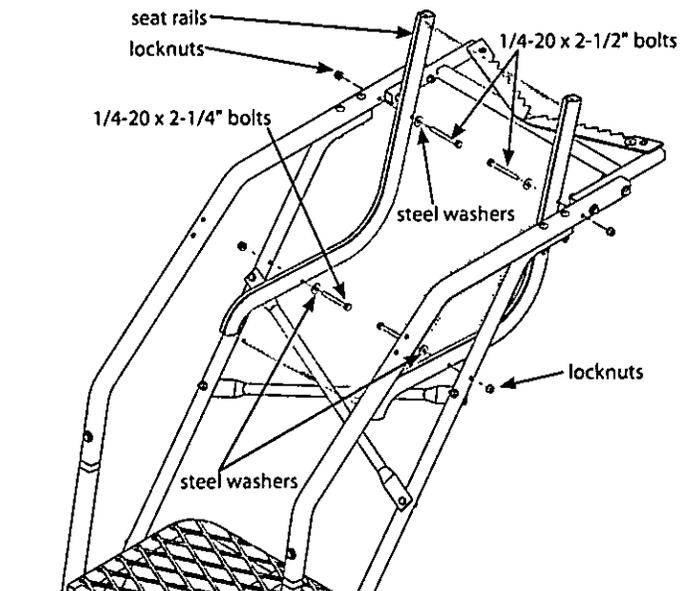

Figure 5
- a. Using (2) provided 1/4-20 x 2-1/2" bolts, locknuts and steel washers, attach the upper portion of each seat rail to the main side rails. **SEE FIGURE 5.** It is important to have the bolt head on the seat rail side and the locknut on the main side rail side for ease of assembly. **FINGER TIGHTEN THESE TWO BOLTS ONLY AT THIS TIME.**
- b. Using (2) provided 1/4-20 x 2-1/4" bolts, locknuts and steel washers, attach the lower portion of each seat rail to the upper ladder support tubes. **SEE FIGURE 5.** It is important to have the bolt head on the seat rail side and the locknut on the upper ladder support tube side for ease of assembly.